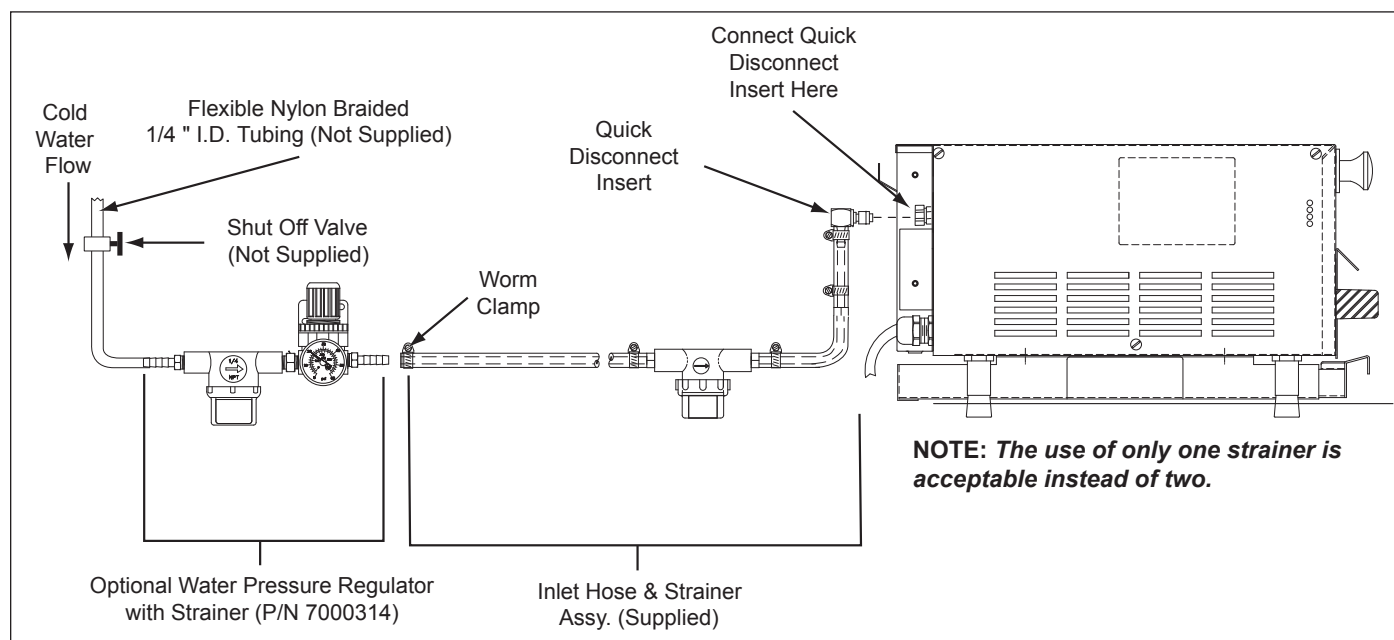

Figure 4. Connecting Water Supply to MS-250/255
These models require a direct cold water hookup. A Water Inlet Hose and Strainer Assembly (Figure 4) is supplied.
**NOTE:** Incoming water is controlled by a normally closed (NC) solenoid valve located inside the Steamer's electrical housing.
1. Turn off the water valve (not supplied) that supplies water to the unit (Figure 4).
2. Connect the 1/4" (6.5 mm) I.D. Flexible Tubing to the outlet side of the Water Pressure Regulator and secure using the worm clamp as shown in Figure 4.
**NOTE:** A Water Pressure Regulator must first be installed as shown in Figure 4. Failure to do so will result in poor steaming and possible flooding. For a single steamer, use Water Pressure Regulator P/N 7000314. For two adjacent steamers, use Water Pressure Regulator P/N 7000235.
4. Over a bucket, press and hold the white plastic tip on the Quick Disconnect Insert (Figure 4) until good, steady water flow is noted (this will purge all air out of the line). Release and note the pressure on the Water Pressure Regulator gauge. It should read 20-25 PSI. If it reads more or less, adjust the pressure by pulling the black knob upwards and turning it clockwise to increase or counter-clockwise to decrease the water pressure. Push the knob down to lock it in place.
5. Push the Quick Disconnect Insert into the fitting at the rear of the unit until a "click" is heard (Figure 4).